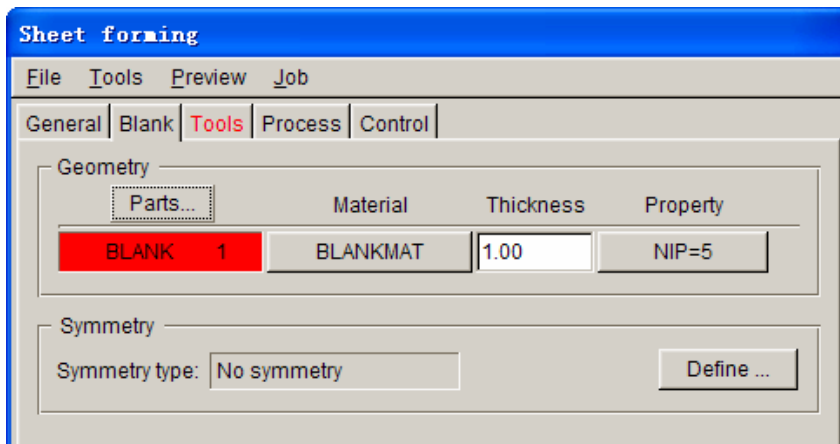

Figure 2.14 Blank definition interface
6. Click **Exit** button to return to the blank definition interface. Now, the color of Blank tab is changed to from RED to BLACK. See Figure 2.14.